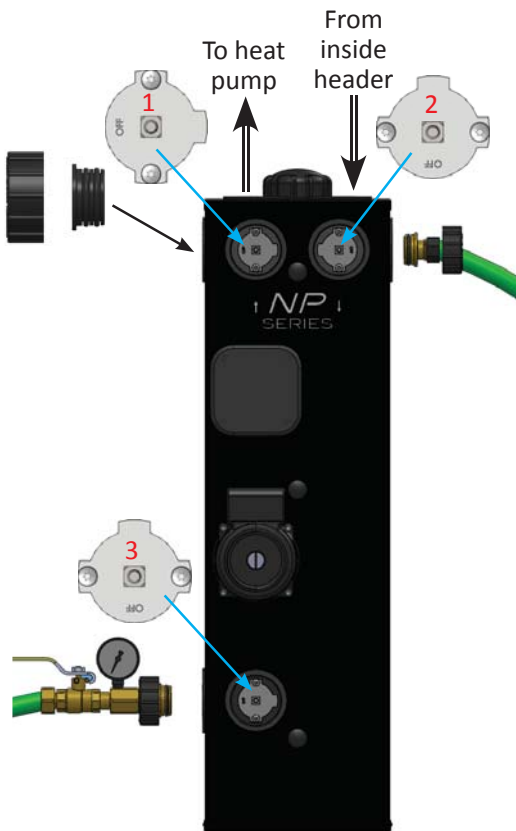

Figure 11: Filling each circuit with fluid
8. Rotate valves #1 through #3 as shown in Figure 11. These valve positions will direct the fluid from the source to the loop and back through the discharge hose.